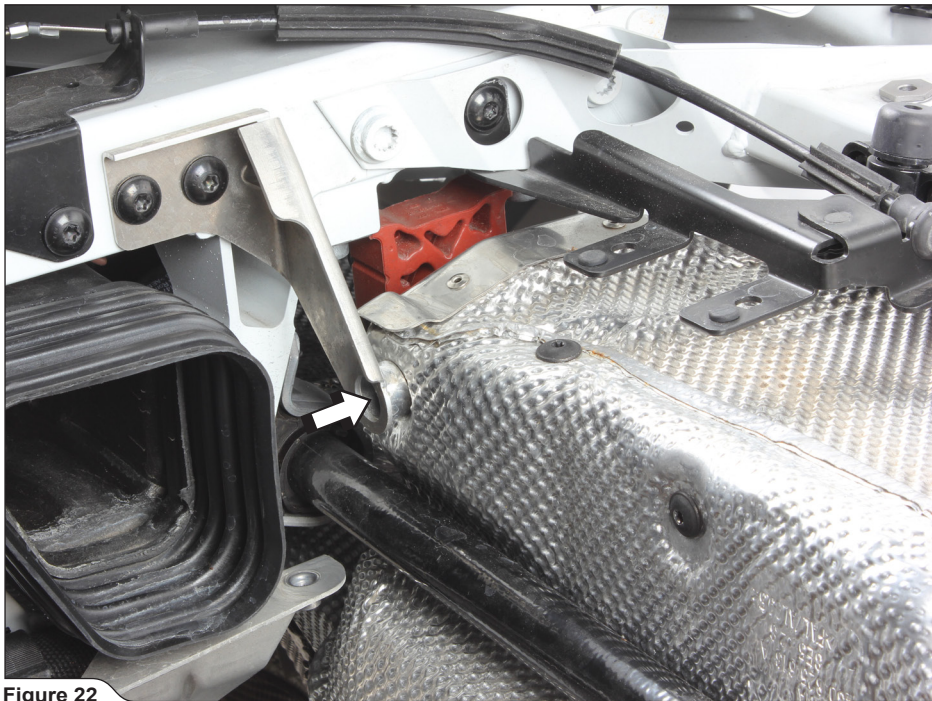

Figure 22
15. Unscrew the marked heat shield's bolts on both sides of the vehicle (**Figure 22, 23**).